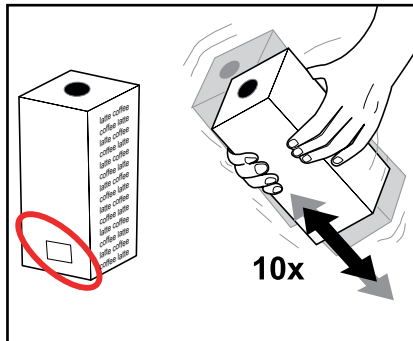

Fig. 2
- Please note the „Best before“ date printed on the packaging (fig. 2).
2. Shake the product pack at least 10 times before inserting it in the dispenser (fig. 2).